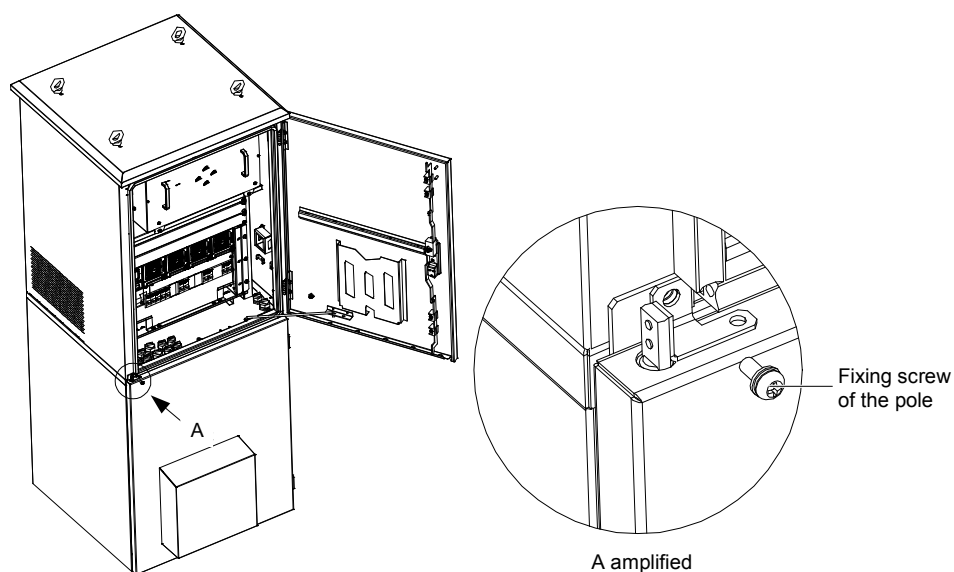

Figure 2-5 Fixing screw of the pole
2. Loosen the fixing screw of the pole with the cross point screwdriver, as shown in Figure 2-5.